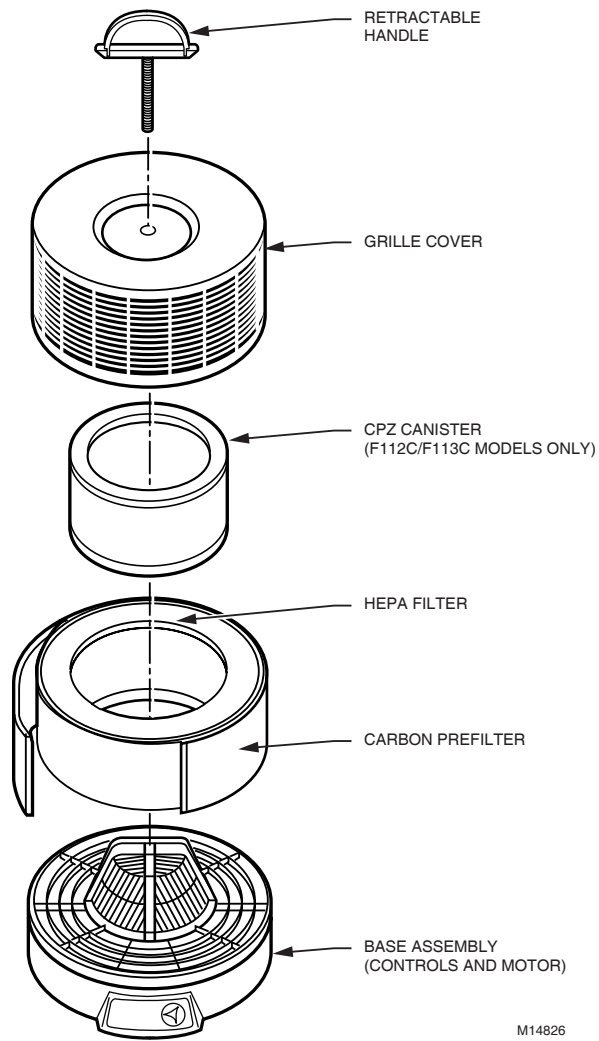

Fig. 1. Air Cleaner components.
1. Disassemble the unit as follows (see Fig.1):